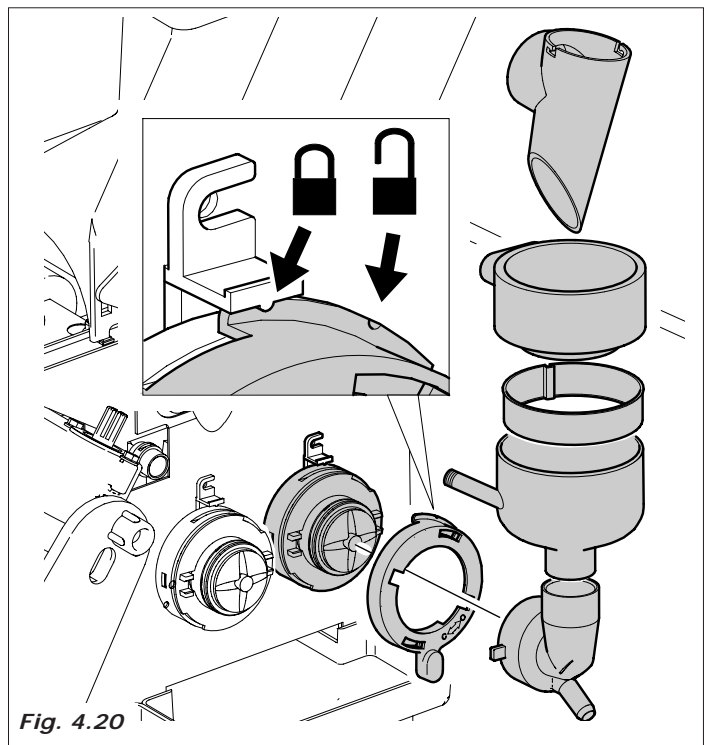

Fig. 4.20
- remove all the powder chutes, water funnels, mixing bowls and whippers and silicone tubes and dip these parts also in the prepared solution (Fig.4.20)